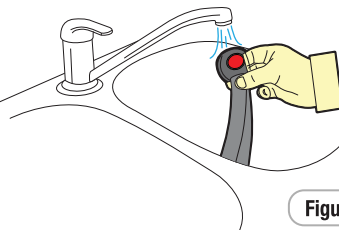

Figure 2
Step 2: Place the Harness Buckle under warm (max. 40 degrees Celsius) running water as shown below. Let the water run through the mouth of the buckle for five minutes (refer Figure 2).